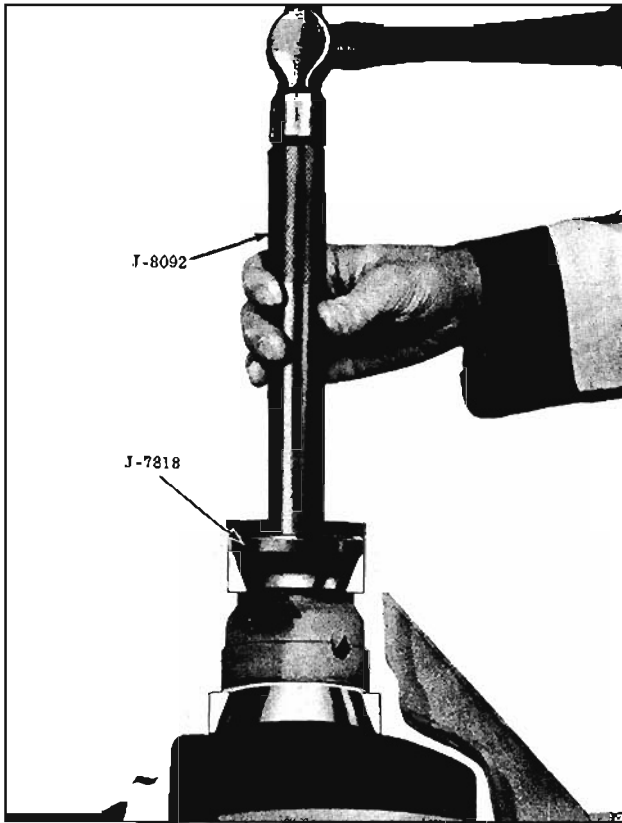

Fig. 10-29 Installing Front Bearing Outer Race
- Press outer race of front pinion bearing firmly against shoulder in carrier. (Fig. 10-29)